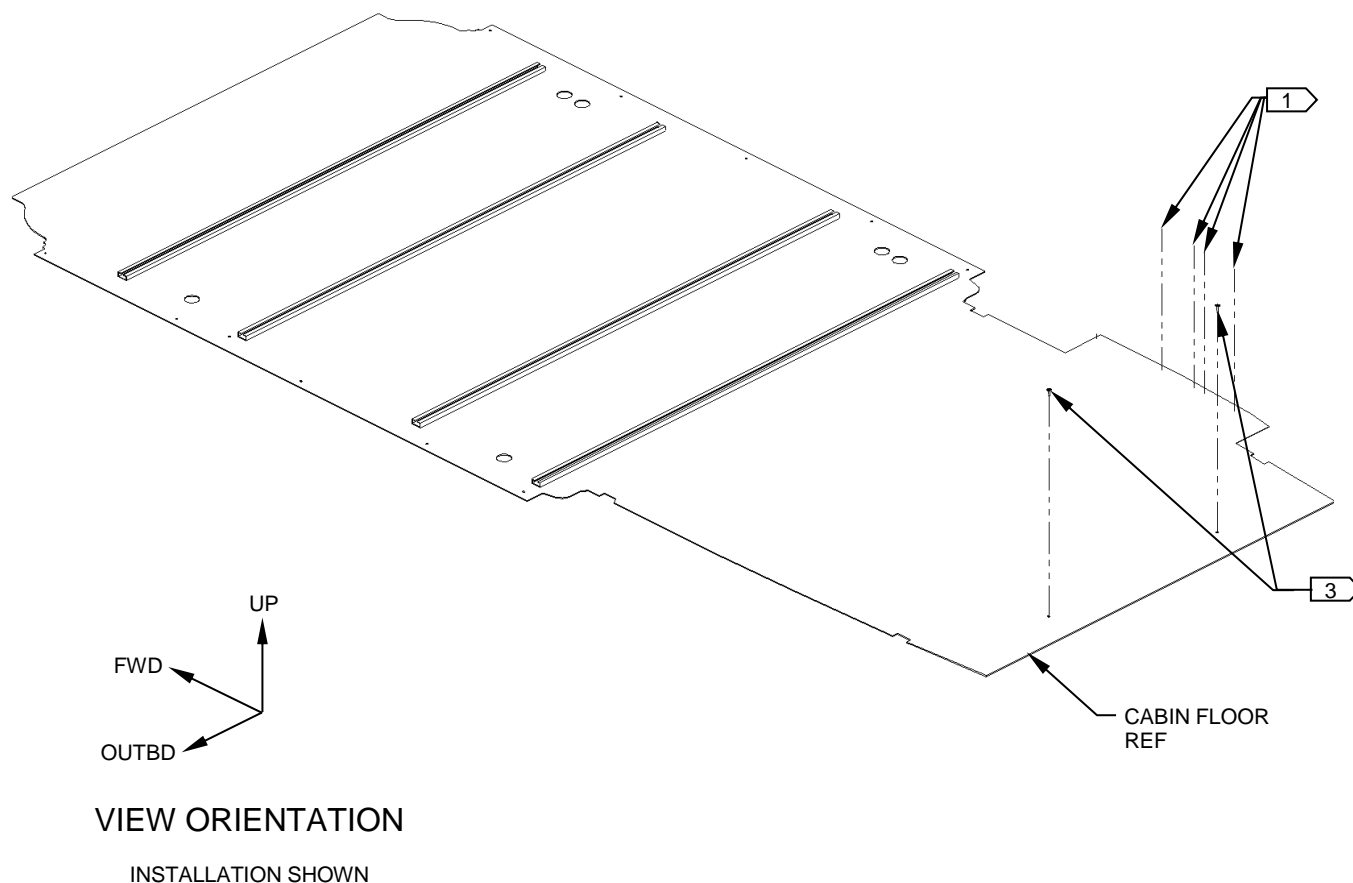

Figure 2
2. Remove and discard the two most OUTBD fasteners common to the access panels near the AFT end of the cargo area. Remove and retain fasteners along cargo door sill. Reference Figure 2.